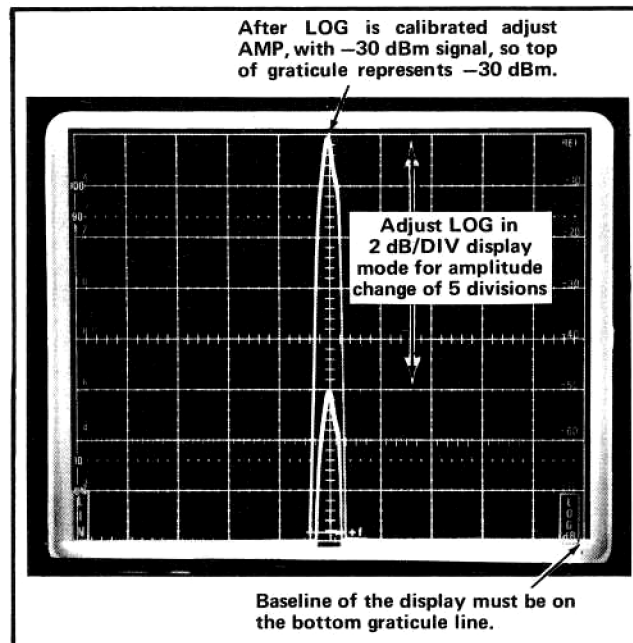

Fig. 2-4. Calibrating the LOG and REFERENCE LEVEL of the display (Double exposure to illustrate the two displays with reference to each other).
- d. Adjust the AMP CAL and the LOG CAL (if necessary) to bring the 50 MHz signal within the graticule window. Adjust the AMP CAL to establish a signal reference amplitude of 8 divisions (Fig. 2-4 shows a full screen display).
h. Repeat these steps until the 2 dB/DIV LOG display is calibrated (see Fig. 2-4). Return the RF Attenuator to 0 dB (REFERENCE LEVEL -30 dBm), then adjust AMP CAL to position the top of the -30 dBm signal on the reference line. Ensure that the -30 dBm signal is 8 divisions in amplitude.